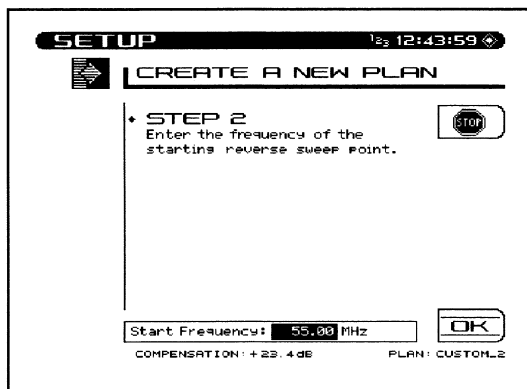

Fig. 14-15 Creating a New Reverse Sweep Plan, Step 2
2. Enter the start frequency (see Figure 14-15). This will be the frequency of the first sweep point in the plan. Use the numeric keys followed by the **ENTER** key. Then press the **OK** soft key to continue.